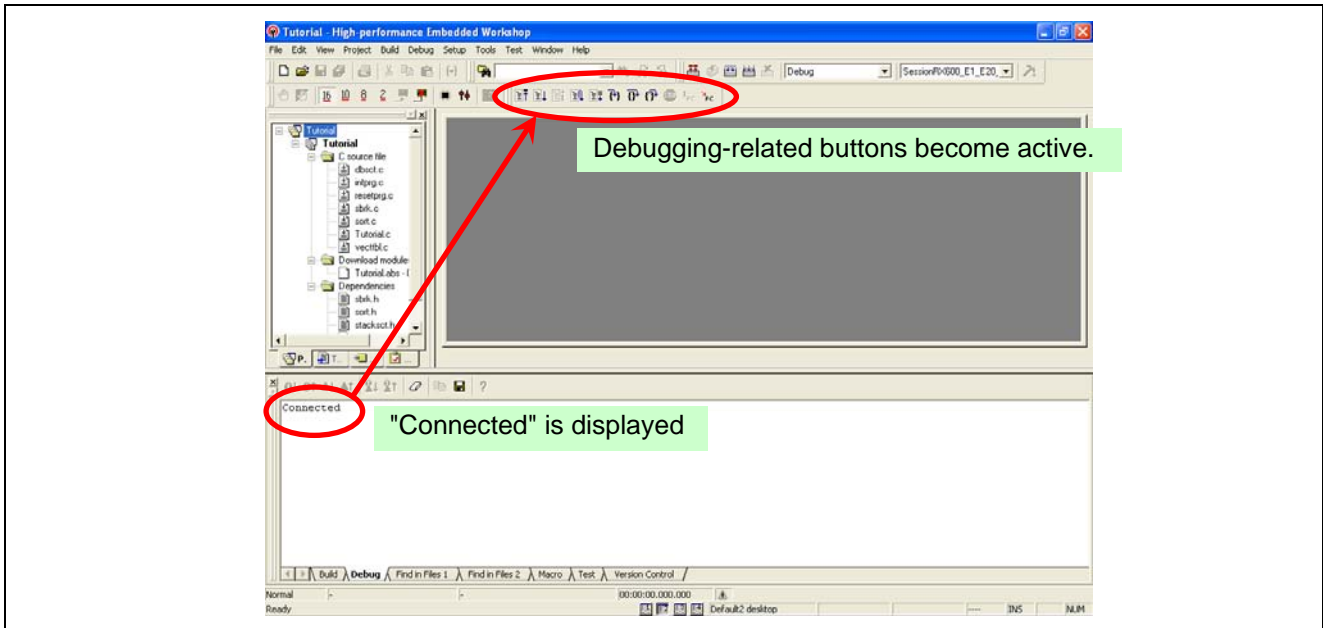

Figure 4.9 Confirming Emulator Connection
- (3) The [Connecting] dialog box will appear.
- (4) When the emulator has been connected successfully, "Connected" will be displayed in the output window and the debugging-related buttons in the upper toolbar will become active as shown in Figure 4.9.